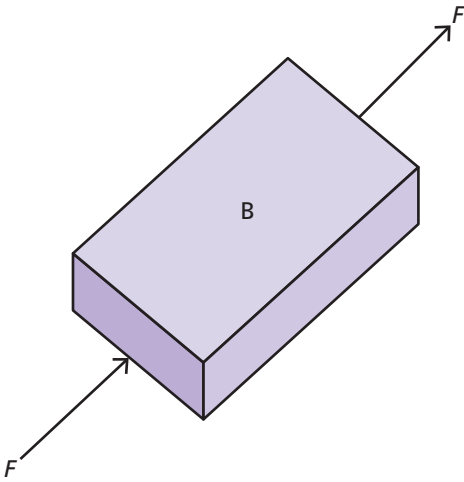

Figure 1.2 B is in compression
**Compressive stress**, as shown in Figure 1.2, is produced by forces trying to compress the material (compressive forces). Compressive stress makes components shorter. This change in length is measured by a highly sensitive measuring instrument called an extensometer. The direct stress is represented by the Greek letter sigma  $\sigma$ .